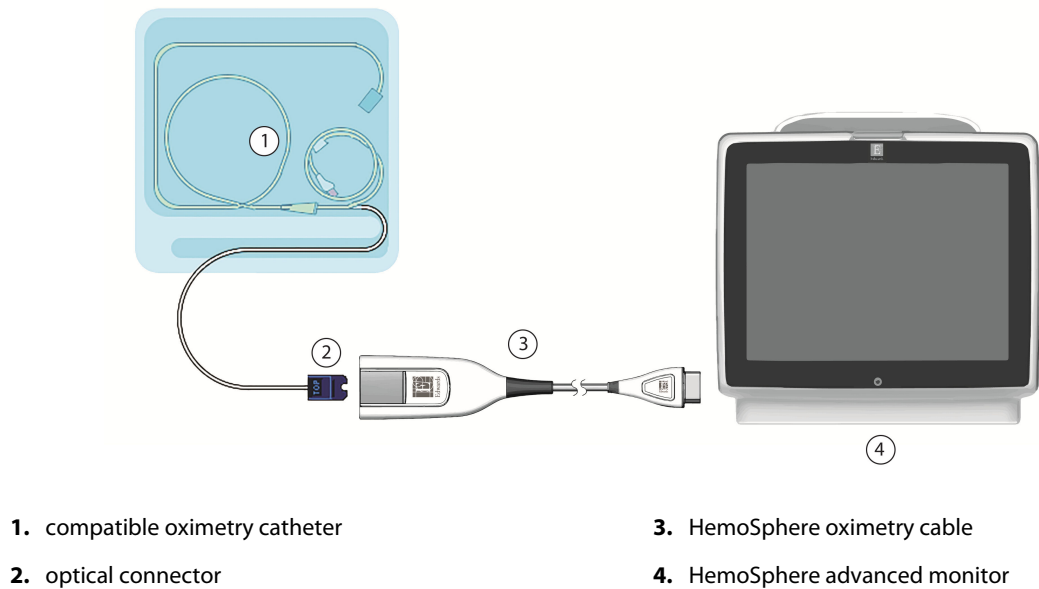

Figure 4-3: Oximetry connection overview
1. Connect the HemoSphere oximetry cable to the left side of the HemoSphere advanced monitor. See Figure 4-3 on page 80.